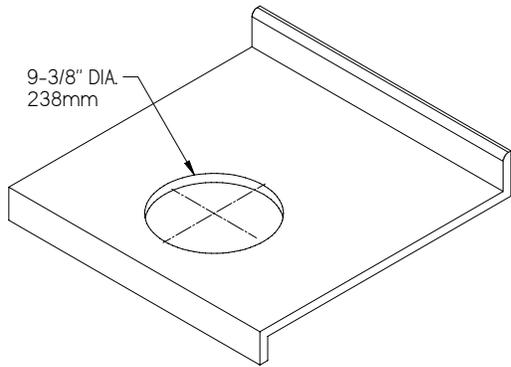

Figure 1
1. Make 9-3/8" (238mm) diameter cutout in desired location on countertop. (See Figure 1)